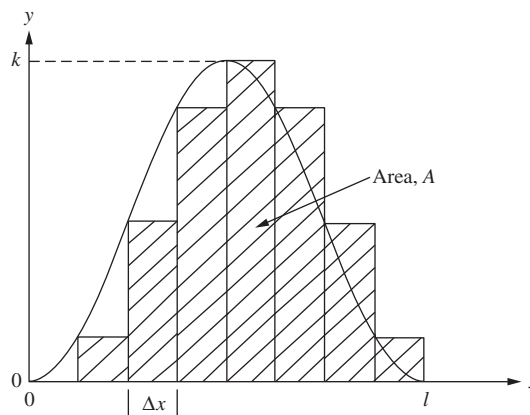

Figure P9.2 Profile of a gear tooth for problem P9-2.
- 9-2.** The profile of a gear tooth shown in Fig. P9.2 is approximated by the trigonometric equation $y(x) = \frac{k}{2} \left(1 - \cos \left(\frac{2\pi x}{l} \right) \right)$.